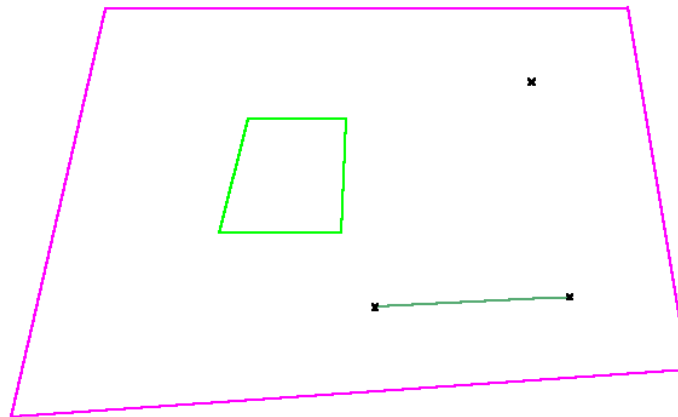
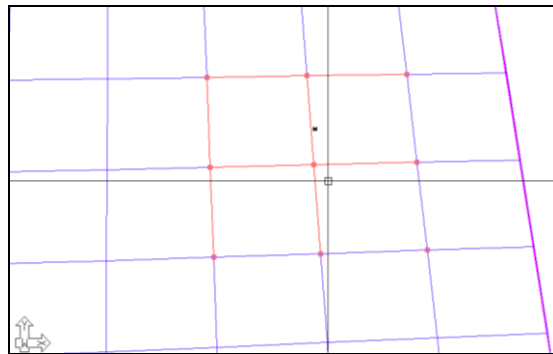

Figure 8.2-4 - Component Representation of the Floor
Figure 8.2-6 - Selecting Four Cells Adjacent to a Column Point
The diagram of line and node constraints for the meshing (**Fig. 8.2-4**) is generated each time meshing is attempted. It is saved in a layer called “component representative.”³ You can view it on its own, by turning this layer on and all the others off.
After the structural validation, the program converts the floor system to a simple drawing (component representation as described above) that shows only the outline to be covered by mesh cells. The component representation is shown in **Fig. 8.2-4**.
Figures 8.2-6 through 8.2-12 illustrate the editing of the mesh to map it on the point and line restraints of the component representation in **Fig. 8.2-4**. The editing consists of the following steps.
- Select the common node of the cells next to column points, drag them and snap them to the column points (**Figs. 8.2-6 through 8.2-8**). In this operation, it is important to select all the cells that share the common node to be shifted to the column.